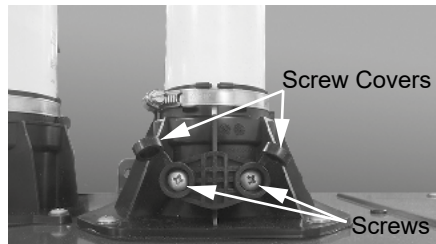

Figure 2 - Emissions port screw removal
- 5 Remove screws and set aside in a safe place for reinstallation. See Figure 2.